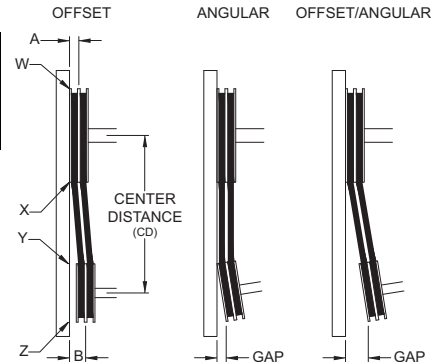

Figure 4
- Ensure pulleys are properly aligned. Refer to Figure 4.
Figure 4 indicates where to measure the allowable gap for the drive alignment tolerance. All contact points (indicated by WXYZ) are to have a gap less than the tolerance shown in the table.